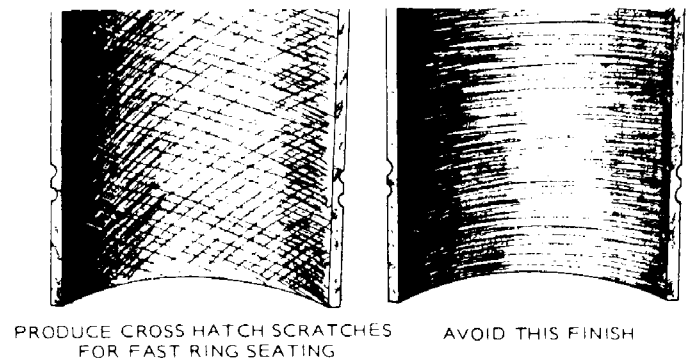

FIGURE 44. CROSS HATCHING
3. Use a slow speed drill to drive the deglazing tool. Move deglazing tool up and down in cylinder (10 to 12 complete strokes) rapidly enough to obtain a crosshatch pattern as shown in Figure 44.